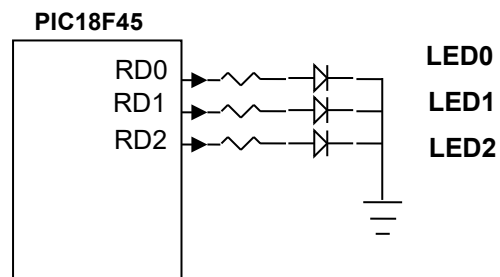

Figure A11.
**A12.** Refer to circuit given at Figure A11 and the following program piece. What is the outcome of if-else statement?